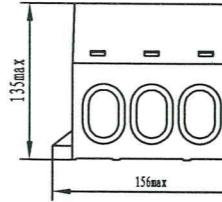

Figure 2 Outline drawing of NJBK10
4.2 Outline drawing of NJBK10 see Figure 2.